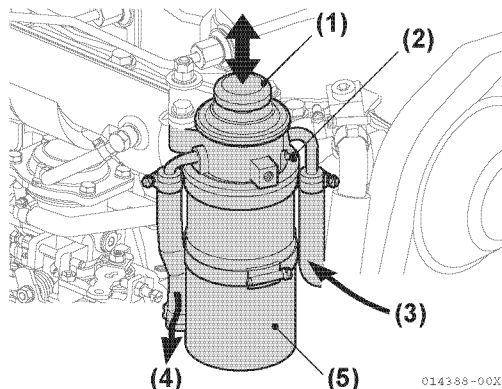

Figure 3-43
3. Loosen the air bleeding bolt (**Figure 3-43, (2)**) of the fuel filter by turning it 2 or 3 turns.
4. Feed fuel with the fuel feed pump by moving the lever on the feed pump (**Figure 3-43, (1)**) up and down.